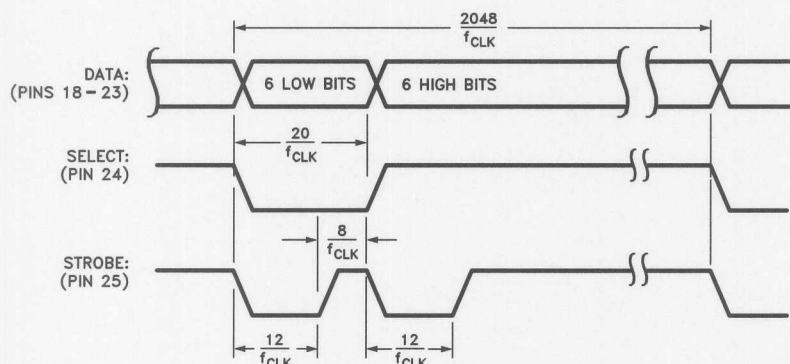

FIGURE 8. 12-Bit Multiplexed Output Timing
2. LM628 (12-bit output mode): Outputs two, multiplexed 6-bit words. The less-significant word is output first. The MSB is on Pin 18 and the LSB is on Pin 23. Pin 24 is used to demultiplex the words; Pin 24 is low for the less-significant word. The positive-going edge of the signal on Pin 25 is used to strobe the output data. Figure 8 shows the timing of the multiplexed signals.
The LM628 DAC output port can be configured to provide either a latched eight-bit parallel output or a multiplexed 12-bit output. The 8-bit output can be directly connected to a flow-through (non-input-latching) D/A converter; the 12-bit output can be easily demultiplexed using an external 6-bit latch and an input-latching 12-bit D/A converter. The DAC output data is offset-binary coded; the 8-bit code for zero is 80 hex and the 12-bit code for zero is 800 hex. Values less than these cause a negative torque to be applied to the motor and, conversely, larger values cause positive motor torque. The LM628, when configured for 12-bit output, provides signals which control the demultiplexing process. See Figure 8 for details.